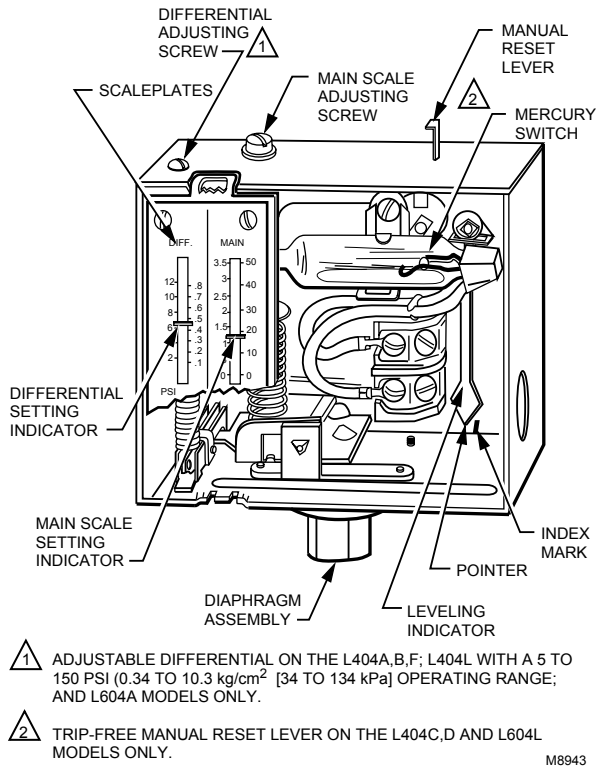

Fig. 11. Setting a Pressuretrol® Controller.
A controller with a mercury switch must be accurately leveled for proper operation. It is level when the leveling indicator (see Fig. 11) hangs freely with its pointer directly over the index mark inside the back of the case. Level the controller by carefully bending the steam trap (siphon loop).
Adjust the main scale set point for the desired operating pressure by turning the main scale adjusting screw (Fig. 11) on the top of the case until the main scale setting indicator is at the desired value. On an L404A,B,F with a 5 to 150 psi (.3 to 10.3 kg/cm² [34 to 1034 kPa]) operating range, or an L604A, adjust the differential setting by turning the differential adjusting screw (Fig. 11) until the differential setting indicator is at the desired value. L404C,D and L604L are manual reset models: see the next paragraph. The scaleplates are marked psi and kg/cm².
The L404C breaks, the L404D makes, and the L604L makes R-W and breaks R-B when the pressure rises to the main scale setpoint. They will not automatically return to their former positions. To reset one of these controllers, wait until the pressure falls to the set point minus the differential (Fig. 10). Then depress the manual reset lever (Fig. 11) and release it. The controller will not be reset until you release the manual reset lever. This prevents the controller from becoming an automatic-reset device if the reset lever is stuck, held in, or tied down.
2. Turn the main scale adjusting screw (Fig. 11) until the main scale setting indicator on the controller corresponds to the boiler pressure gauge reading.
7. If the controller is operating properly, turn the main scale adjusting screw (Fig. 11) until the main scale setting indicator is at the desired set point.
The controller was carefully calibrated during manufacturing and should not require recalibration. Most calibration errors are caused by improper leveling. The controller should be level when the pointer on the leveling indicator is directly over the index mark (Fig. 11). In some cases, the leveling indicator may not be accurate enough. The pointer may be over the index mark, but the controller still may not be operating within the tolerance of its scale setting. In this case, carefully bend the steam trap (siphon loop) until the controller switches properly.